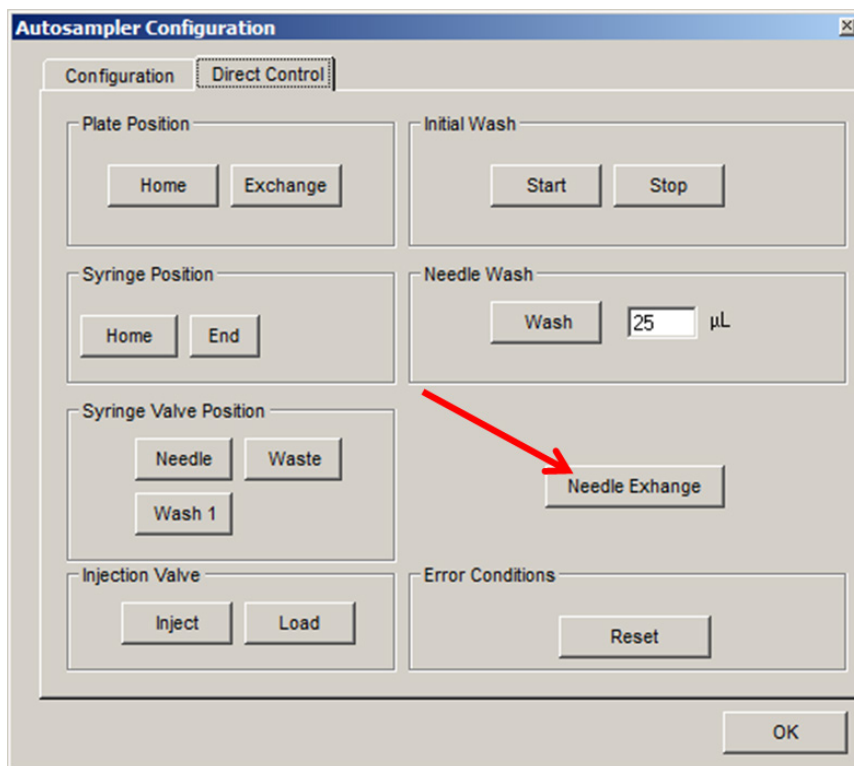

Figure D-2 Autosampler Configuration Dialog Indicating the Needle Exchange Button
3. Click **Needle Exchange** and follow the on-screen instructions (Figure D-2).